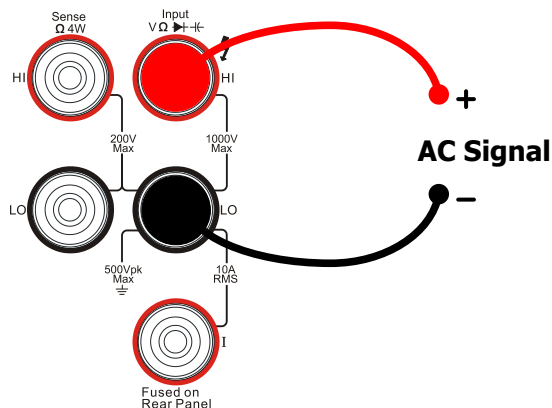

Figure 2-33 Sketch map for connecting
1. Connecting the red lead (Test leads) to Terminal-HI and black lead to Terminal LO as shown in Figure2-33.